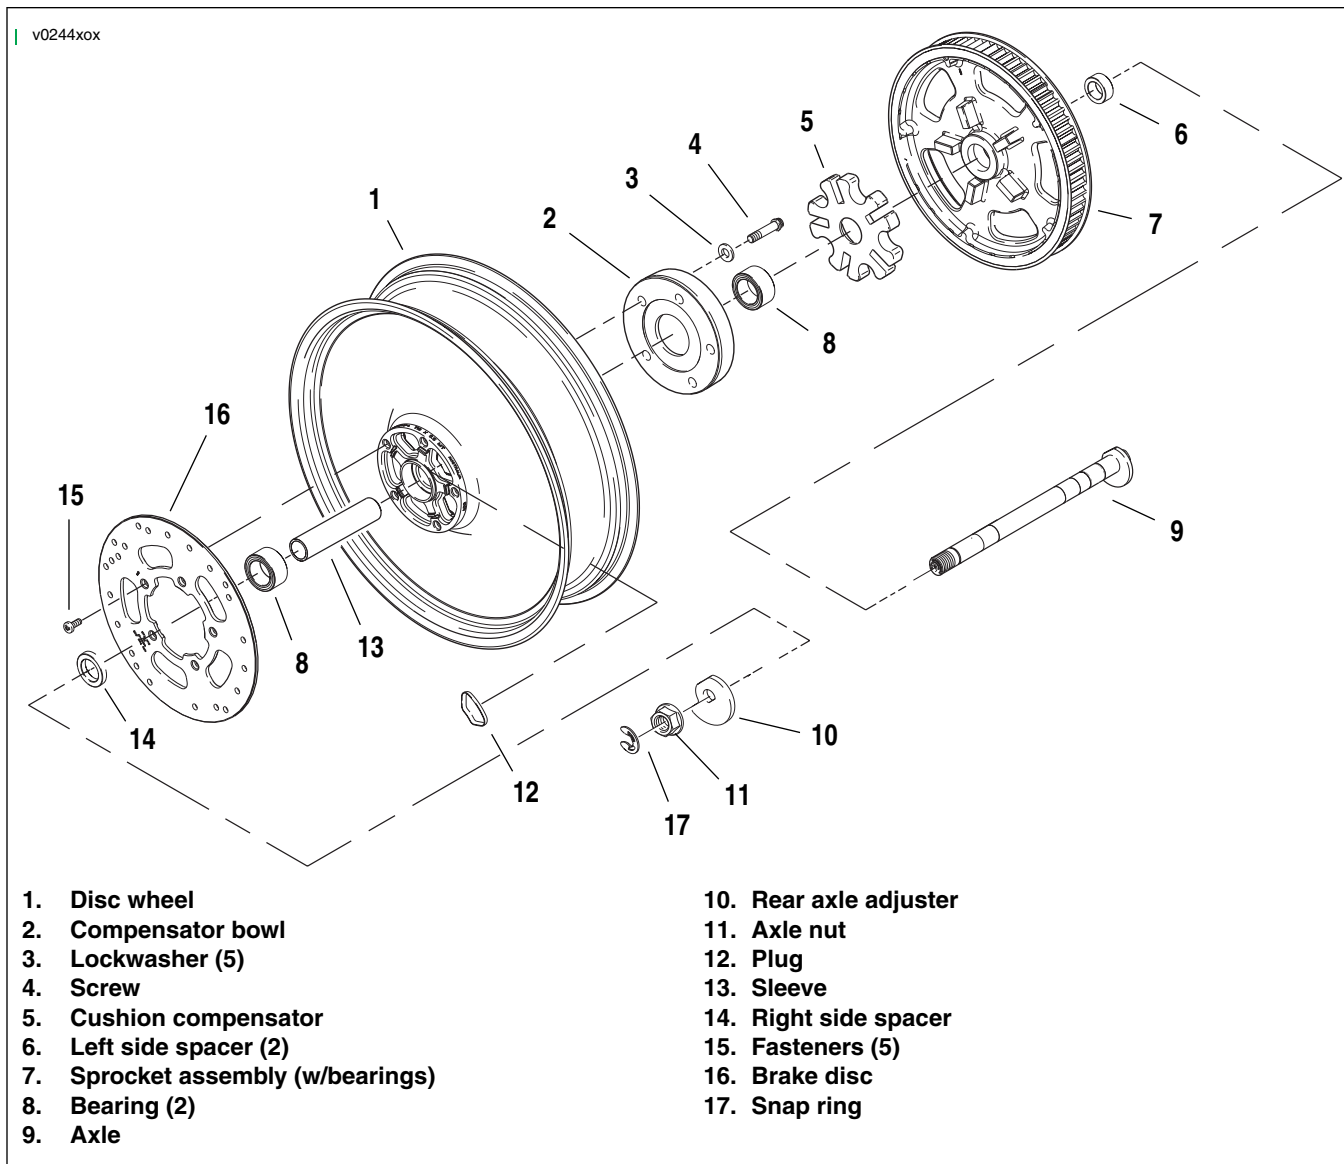

Figure 2-81. Rear Wheel Components (typical)
4. See Figure 2-81. If necessary, remove screws (4) and lockwashers (3) holding compensator bowl (2) to disc wheel (1). Remove compensator bowl (2).
5. If necessary, remove fasteners (15) that hold brake disc (16) to disc wheel (1) and remove brake disc (16).